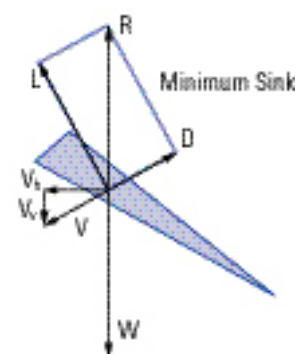

Figure 2
If you pull gently on the brakes, you slow down the glider due to the increased drag (D) as per Figure 2. As the forward speed decreases so does the ratio V_h over V_v , the glider slows down until R becomes equal to W , and you have steady flight again, but now at a reduced speed.